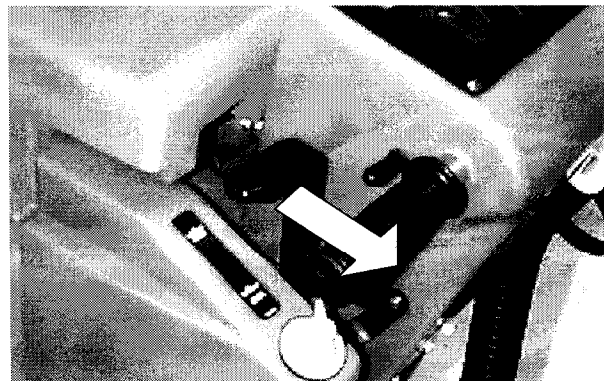

FIG. 3
1. Raise squeegee mount bracket. Pull back on squeegee lift lever to raise squeegee mount bracket (*Figure 3*).